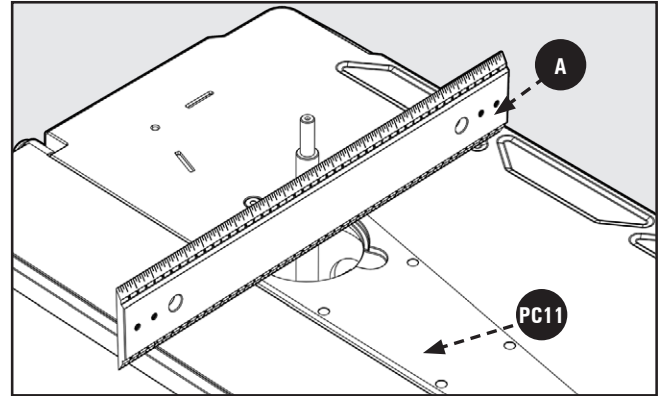
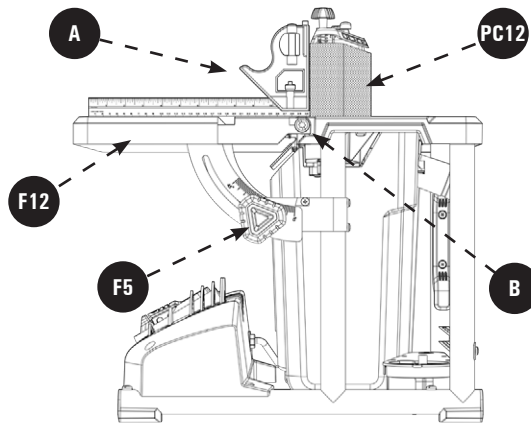

FIGURE 3
FIGURE 8
To install the table insert, see Figures 3 and 4.
1. Use a straight edge **A** as shown in Figure 3 to make sure the table insert **PC11** is flush with the table. If necessary adjust the set screws in the table insert with the 2.5mm Hex Wrench provided.
**⚠ WARNING:** To reduce the risk of injury from accidental starting, always turn switch "OFF" and remove switch key before removing the spacer ring inserts, sleeves and drums. See Figures 3 and 5.
**⚠ WARNING:** To reduce the risk of injury from accidental start, make sure tool is unplugged before aligning. See Figure 3 and 5. Use a combination square **A** to check the angle of the front table **F12** with the sanding belt **PC12**. (**NOTE:** It is recommended to verify the combination square is “true” before use. See procedure on this page (Combination square not supplied.) See Figure 8.